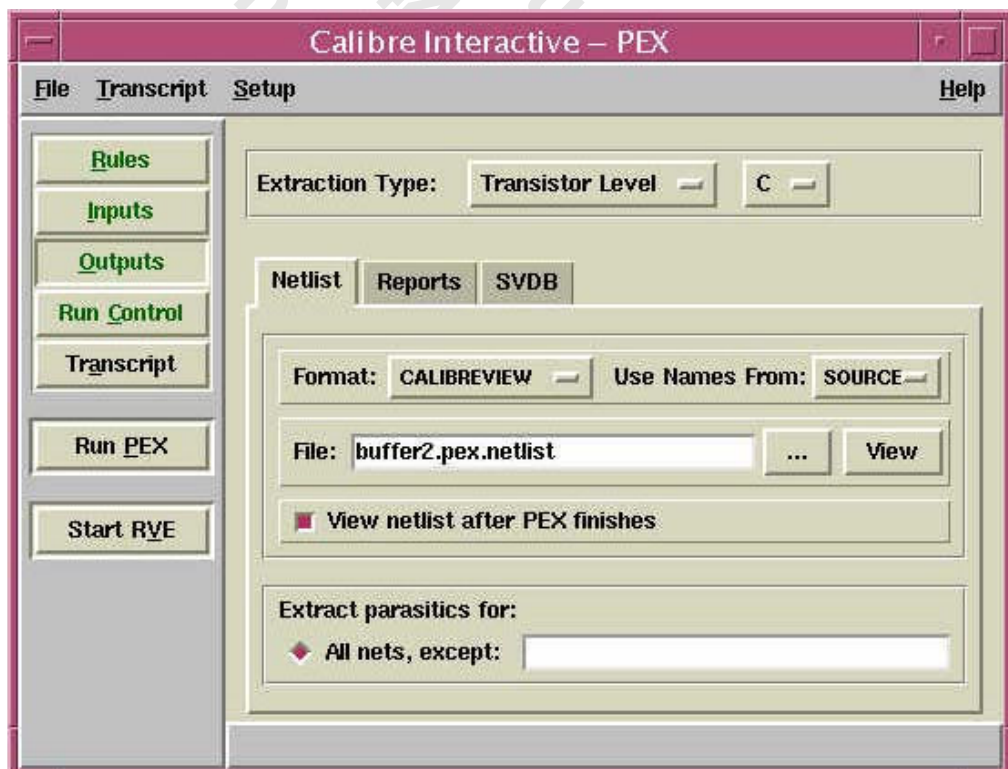

FIG. 37 Calibre interactive RCX window
3. Select the “Extraction Type”, specify the output format to be “CALIBREVIEW” and “Use Names From” to be “SOURCE” (fig 37).